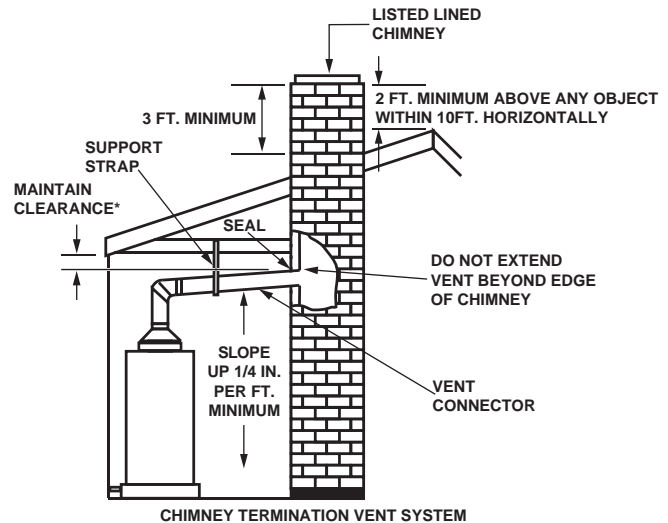

FIGURE 13.
- The connector must not extend beyond the inner edge of the chimney as it may restrict the space between it and the opposite wall of the chimney (Figure 13).
An unused chimney flue or masonry enclosure may be used as a passageway for the installation of a gas vent (Figure 13).
1. Install the water piping and fittings as shown in Figure 13. Connect the cold water supply (3/4" NPT) to the cold water inlet fitting. Connect the hot water supply (3/4" NPT) to the hot water outlet fitting.